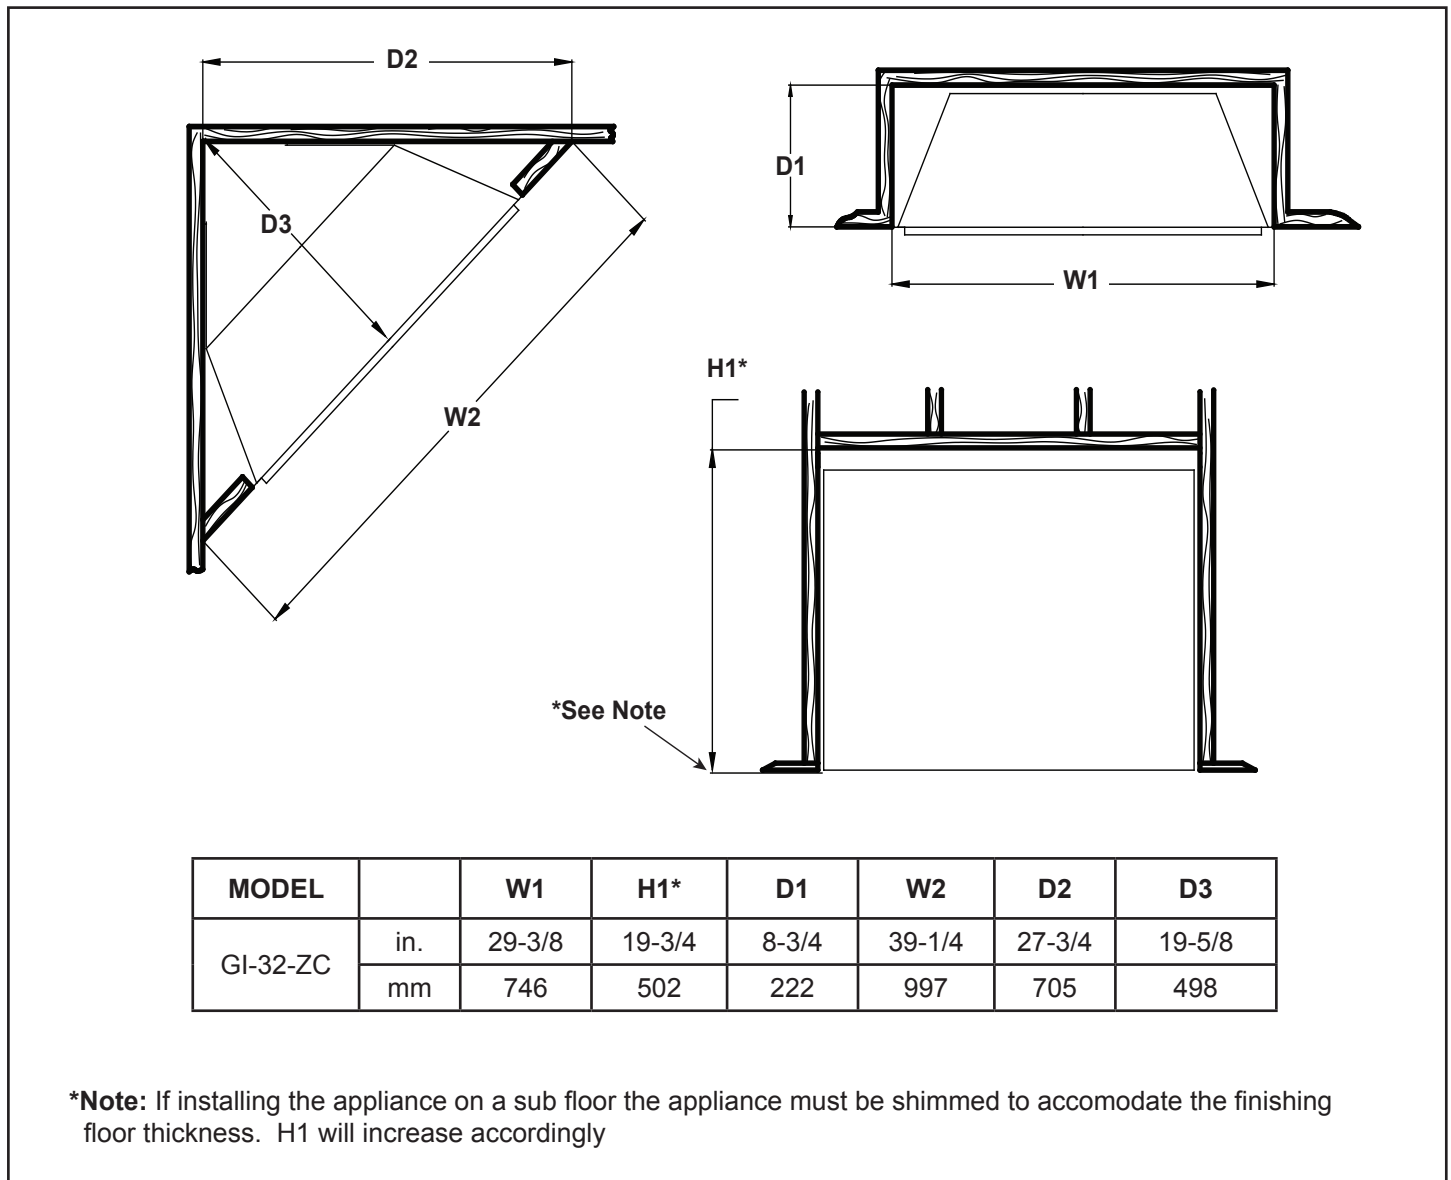

Figure 4.7 Framing Dimensions
If desired construction materials may be used to frame a rough opening within the existing fireplace. This allows for the appliance to then be secured with construction screws to the framing through the 4 holes on the front flanges of the appliance. Refer to Figure 4.7 for framing dimensions.
1. This appliance is approved for built-in installation. Refer to Figure 4.7 for framing dimensions.